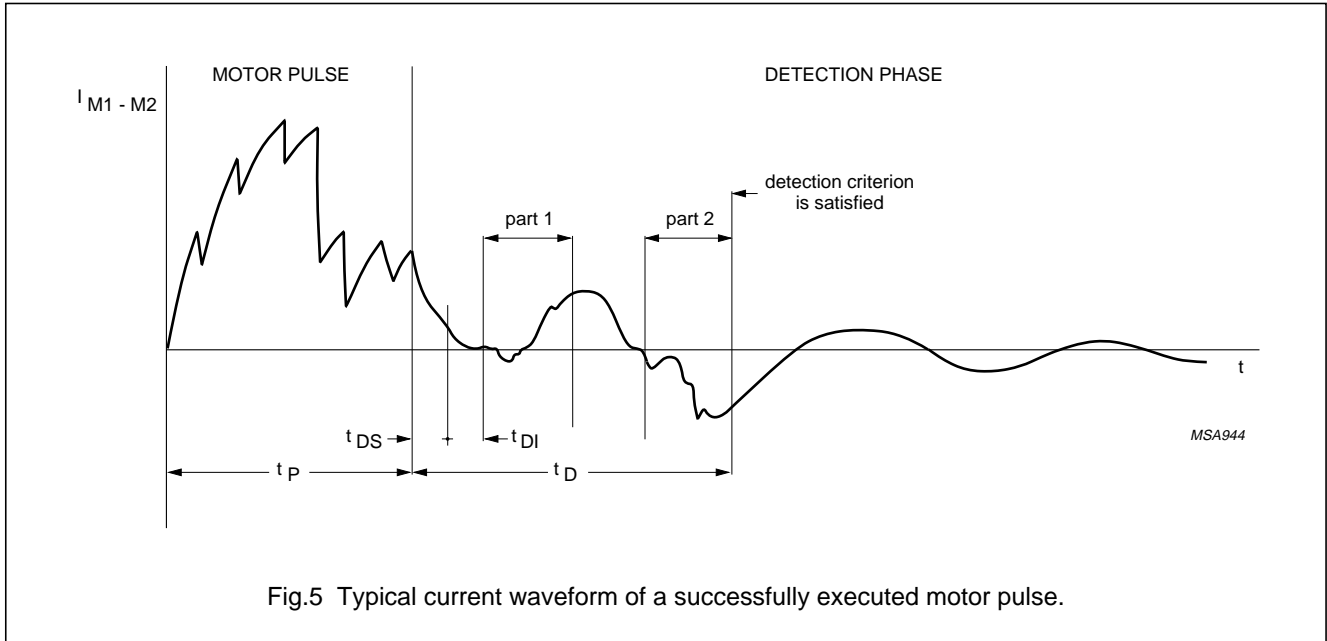

Fig.5 Typical current waveform of a successfully executed motor pulse.
The PCA148x uses current detection in two defined parts of the detection phase to determine if the motor has moved (refer to Figs 5 and 6). The detection criteria are:
- Minimum value of  $N = 2$ ; where  $N =$  number of measured positive current polarities since the first negative current polarity after part 1 was detected (see Fig.5).